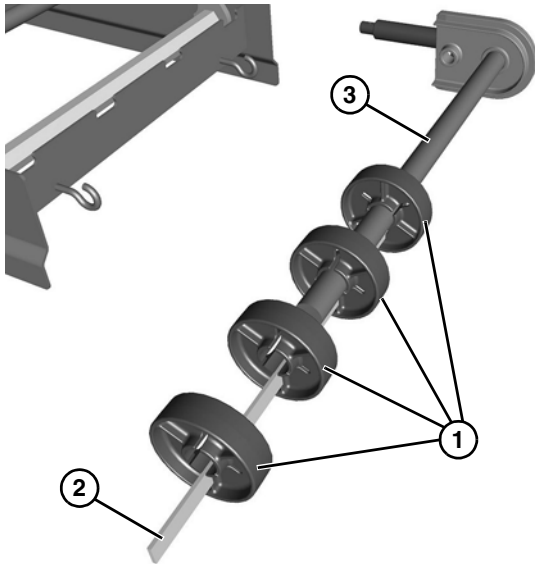

Figure 64
- Slide the pucks (**Figure 64, item 1**) and alignment bar (**Figure 64, item 2**) off the idler shaft (**Figure 64, item 3**).